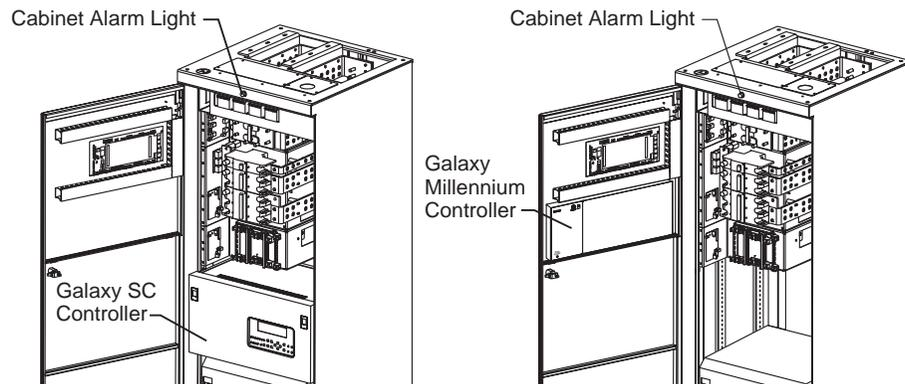

Figure 12-1: Location of Cabinet Alarm Light and Controller
1. Locate the system controller. The controller is typically located in the cabinet identified as BAY ONE. Because a trouble condition exists, the red alarm on the top of the cabinet will be illuminated. See Figure 12-1.).